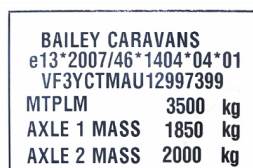

Figure 1
- On the statutory plate (fig. 1) gas locker.
- The EWVTA plate example (fig. 1)